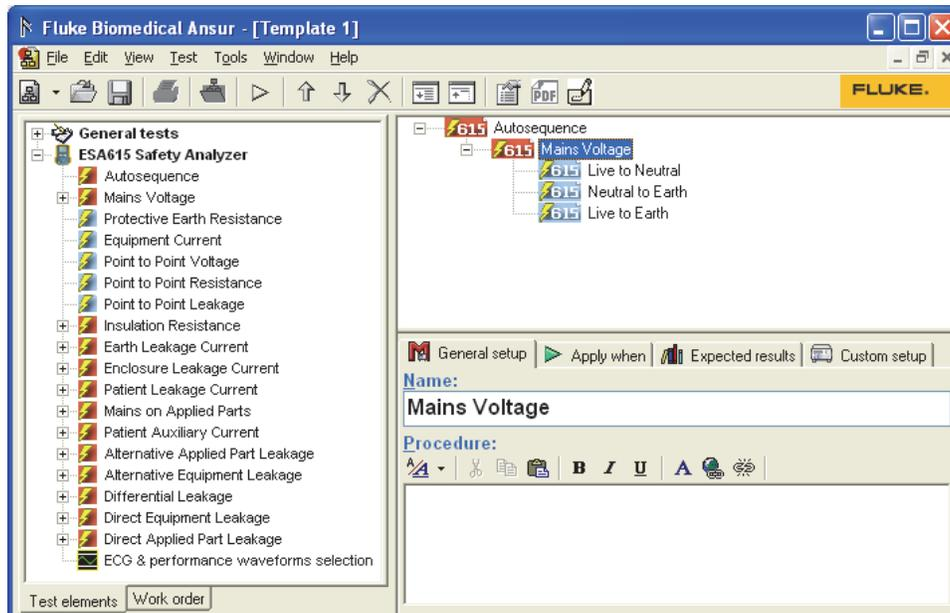

Figure 6-15. Test Sequence with Mains Voltage Test
2. Click a test element in the explorer pane and pull it above the Autosequence icon in the test sequence pane. Figure 6-15 shows the Mains Voltage Test element put in the Autosequence container.